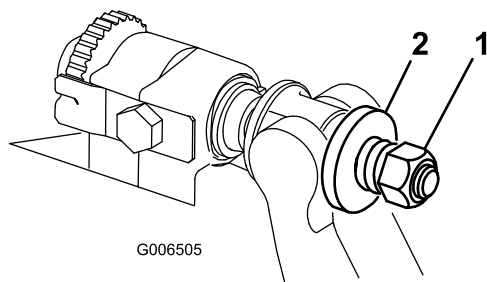

Figure 30
4. Tighten the spring tension nut until the spring is collapsed, then back off 1/2 turn (Figure 30).